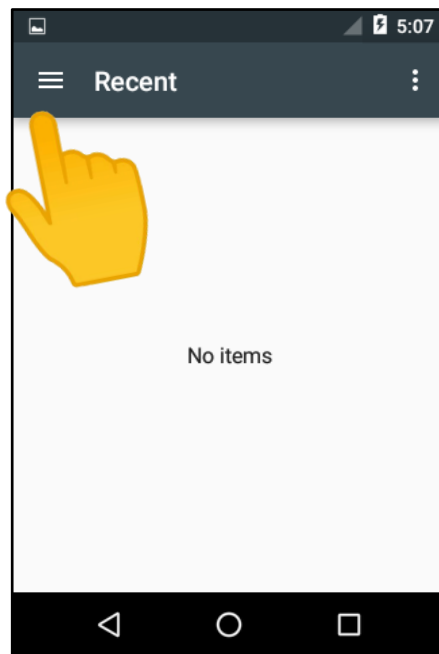

Figure 93: Tap 3 Line Icon
15. Tap **3 Lines** at the top left of the *Recent* screen (see **Figure 93**).